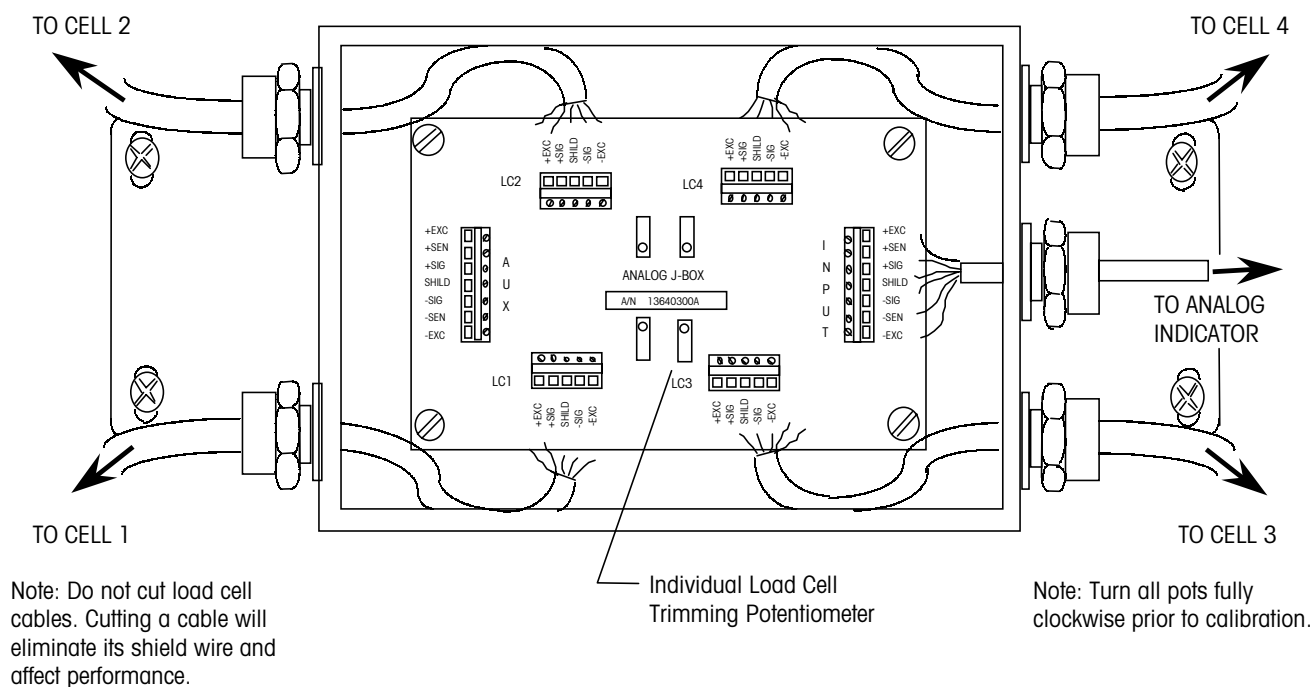
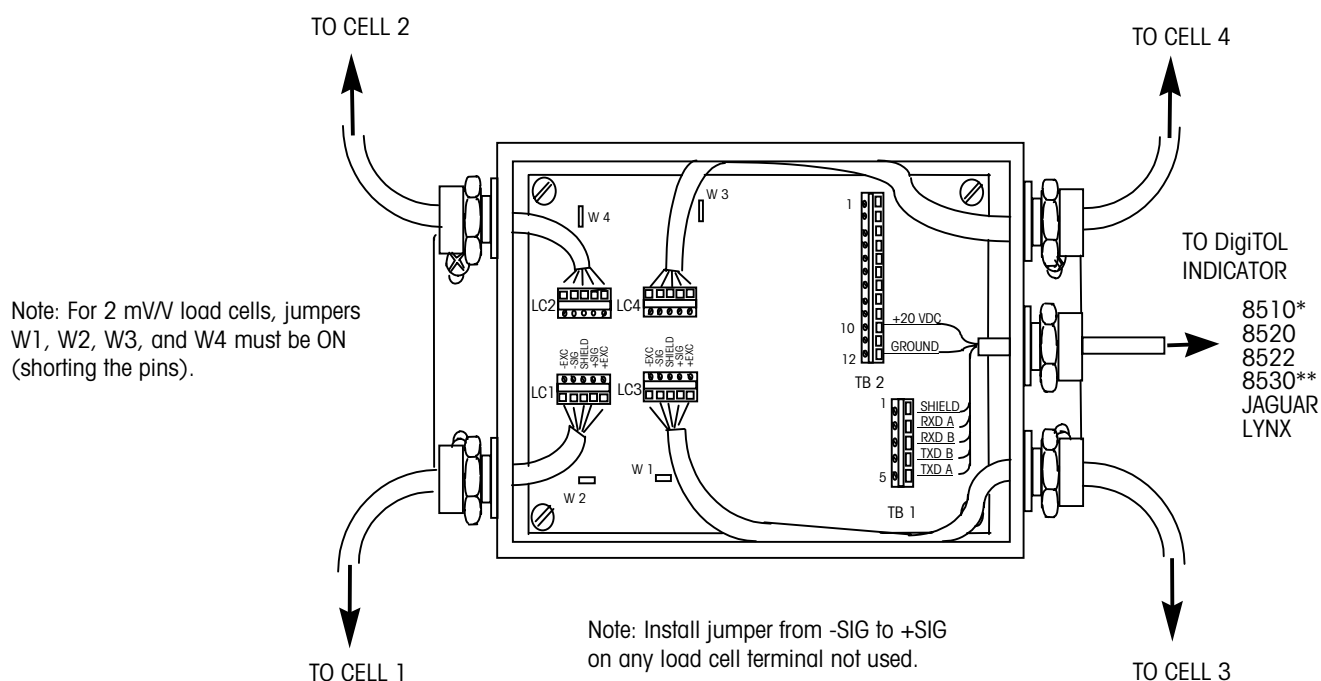

Figure 3-12: Analog Junction Box Detail
Figure 3-13: DigiTOL Junction Box Detail
Flexmount, Flexmount HD, and Centerlign modules can be used with an analog junction box for summing the load cell outputs. Only analog-compatible indicators work with the Analog junction box. See Figure 3-12 and Table 3-4 for the correct cable connection.
Flexmount, Flexmount HD, and Centerline weigh modules can be used with a DigiTOL junction box for summing load cell outputs. Only DigiTOL indicators work with a DigiTOL junction box. In the DLC mode, the indicator serves as the host for the DigiTOL junction box, allowing you to use the indicator's keypad to adjust scale parameters. See Figure 3-13 and Table 3-5 for cable connections.
1. Wire the home run cable to the PCB according to Figure 3-12 for Analog, Figure 3-13 for DigiTOL DLC, or Figure 3-14 for IDNet.